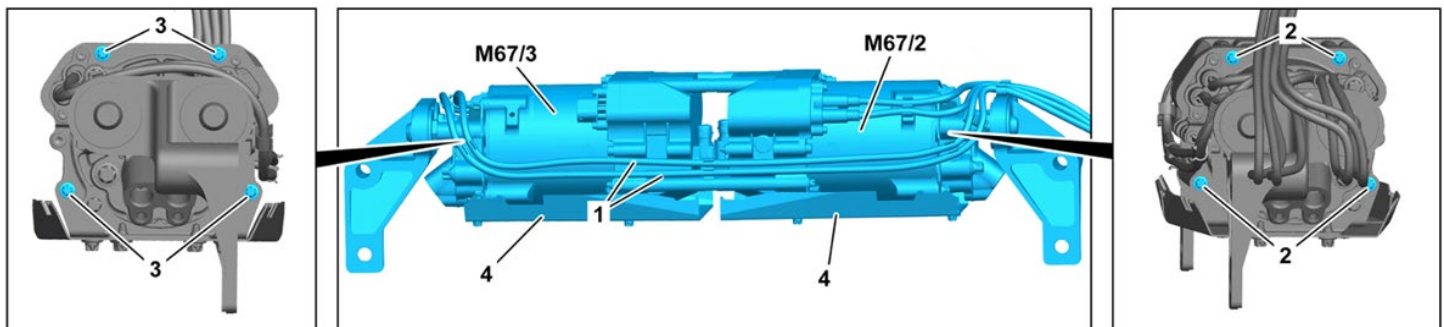

Figure 3
- i** Replace hydraulic pump of rear electrohydraulic suspension, see **AR32.50-P-0046ME (figure 3)**.